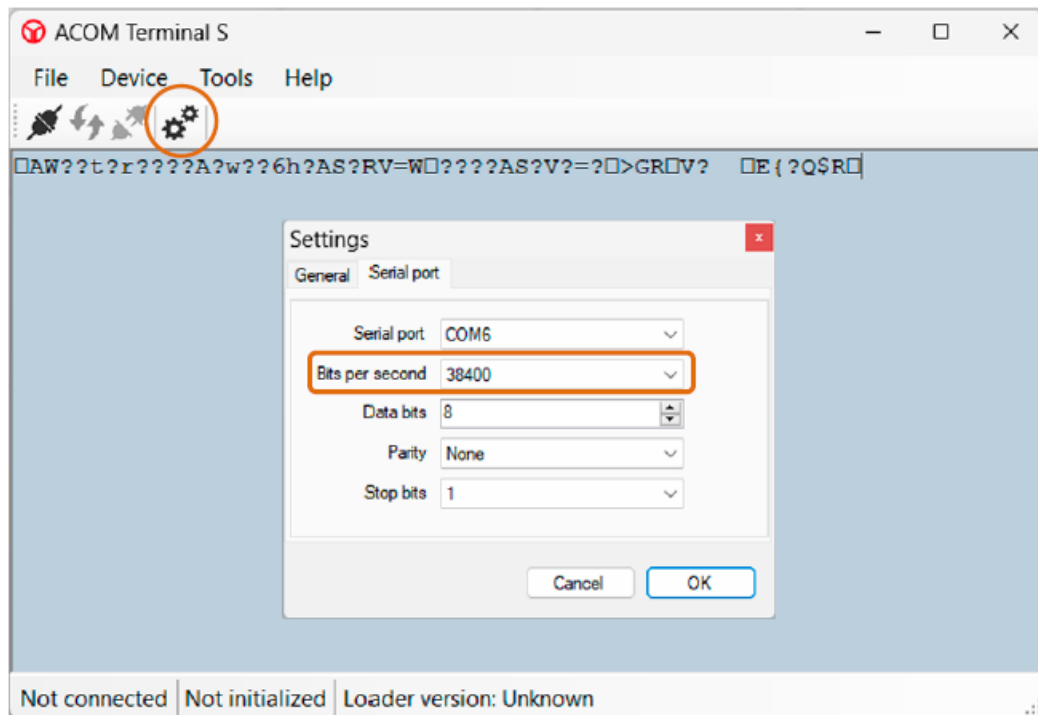

Figure 1-16 | Terminal S – Change Bits per Second
- Open the Settings window by clicking on the Settings icon (two gears) or use Tools -> Settings from the menu bar. In the Settings window -> tab Serial port, configure the settings as shown in Figure 1-16 | Terminal S – Change Bits per Second: